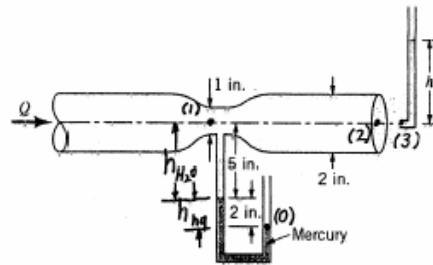

FIGURE P3.45
3.45 Water flows through a converging-diverging nozzle as shown in Fig. P3.45. Determine (a) the volumetric flowrate, Q , through the nozzle and (b) the height, h , of the water in the Pitot tube inserted into the free jet. Viscous effects are negligible.